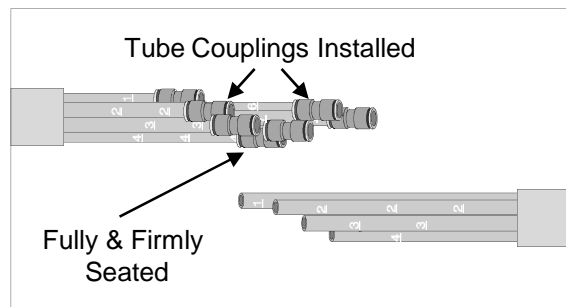

Figure 7
8.2 Choose either tube cable and install a Tube Coupling on each tube. Be sure each tube is pushed all the way into its coupling and fully and firmly seated. **See Fig. 7.**